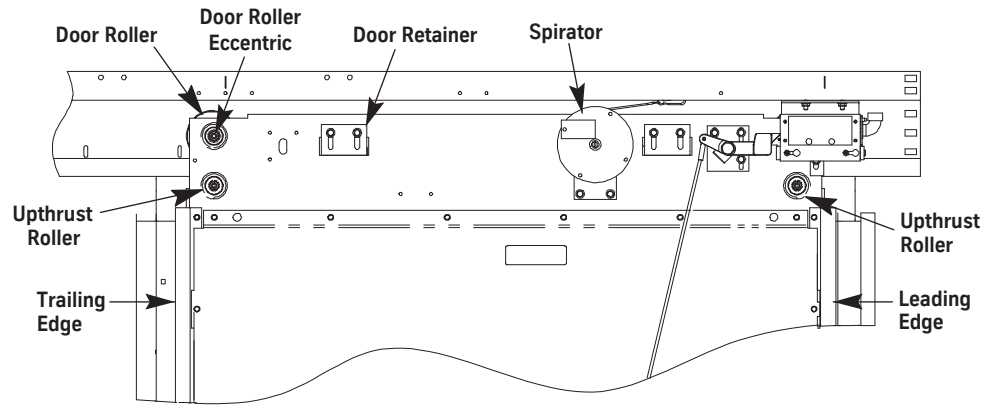

Figure 12 - Door Rollers
4. Loosen all upthrust rollers. See Figure 12 on page 7-16.